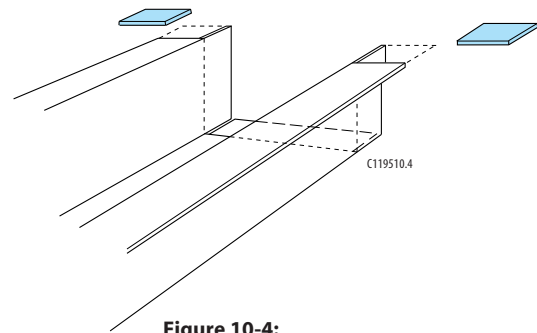

Figure 10-4:
3. Cut and remove approximately 35mm ($1\frac{5}{16}$ inches) of the flanges on the service rail. Cut a 5mm ($\frac{1}{4}$ inch) gap approximately 35mm ($1\frac{5}{16}$ inches) along the corners of the service rail to create tabs (figure 10-4).